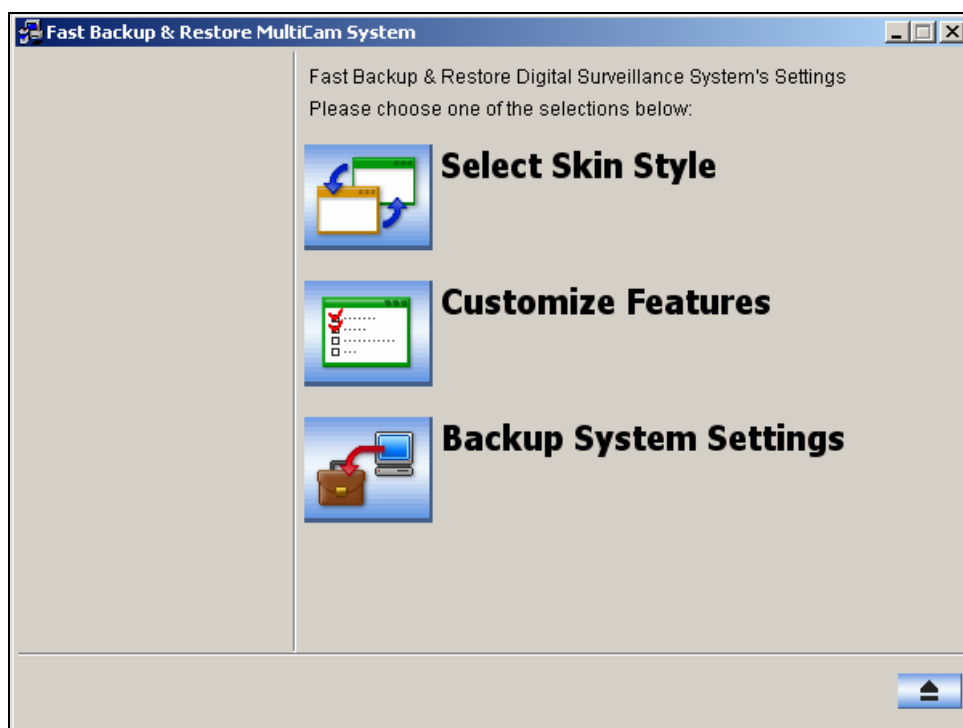

Figure 11-34 FBR Window
1. In the FBR window (Figure 11-34), click the **Select Skin Style** icon. The option menu appears.
1. In the FBR window (Figure 11-34), click the **Select Skin Style** icon, point to **DVR**, and then select **Custom Logo....** This window appears.
1. In the FBR Window (Figure 11-34), click the **Customize Features** icon to display this dialog box.
1. In the FBR window (Figure 11-34), click the **Backup System Settings** icon. This dialog box appears.